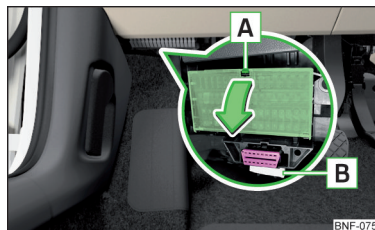

Fig. 167
The fuses are located underneath the steering wheel on the underside of the dash panel » Fig. 167.
- Press securing tab **A** » Fig. 167.